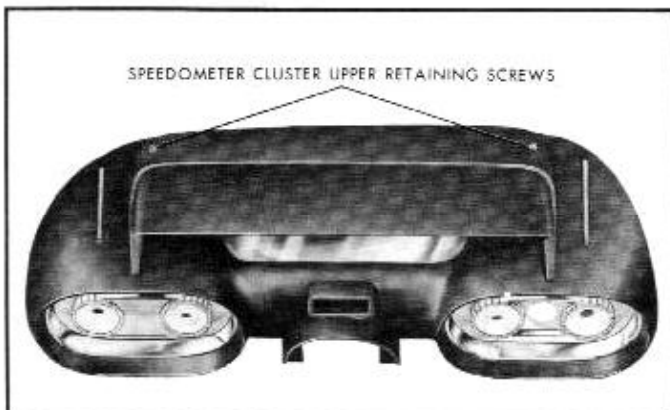

Fig. 11-12—Speedometer Cluster Upper Screws
3. Remove two cluster retaining screws located at top rear of cluster. See figure 11-12.